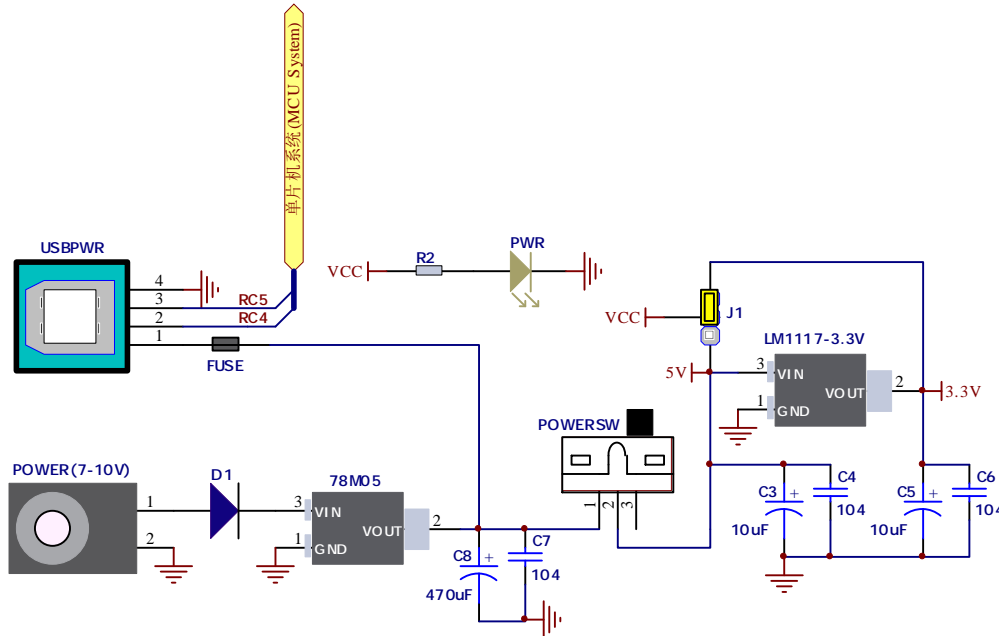

Figure 2-1: Dual power supply unit schematic
**easyPIC-40** Board contains power supply that creates stable voltage **5V** and **3.3V** and current levels necessary for powering each part of the board. Power supply section contains two power regulators: **78M05**, which generates **5V**, and LM1117-3.3 which creates **3.3V** power supply. The board can be powered in two different ways: with USB power supply (**USB/POWER**), or using external adapters via adapter connector Jack (**POWER(7-10V)**). External adapter voltage levels must be in range of **7-10V** DC. Use **J1** to specify whether you are using **5V** or **3.3V** power supply for the system. Upon providing the power using either external adapter or USB power source you can turn on power supply by using **POWERSW** (Figure 2-1). Power LED (**PWR**) will indicate the presence of power supply.